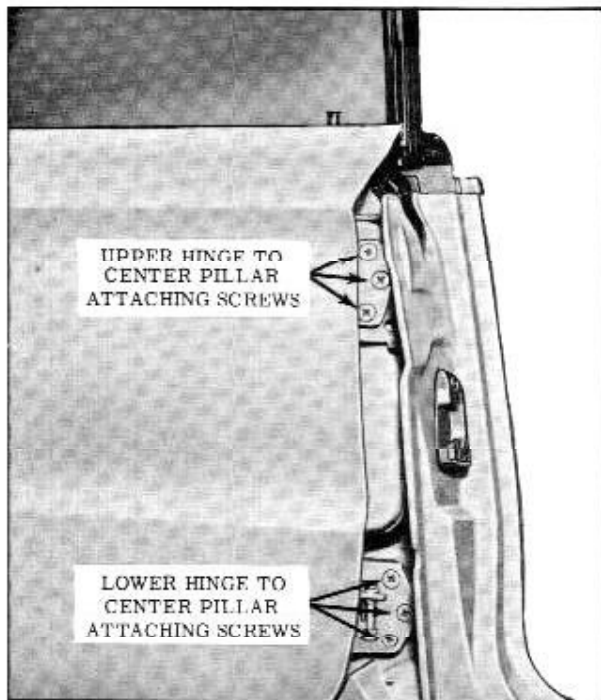

Fig. 17-42 Rear Door to Pillar Attachment
4. With door properly supported, remove 3 upper and 3 lower hinge attaching screws at door hinge pillar or center pillar depending on method of removal. (Figs. 17-42 and 17-43)
2. To adjust door fore or aft, loosen hinge to center pillar attaching screws. (Fig. 17-42) Adjust door fore or aft as required and tighten screws and bolts.